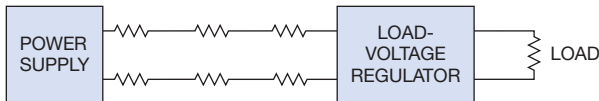

Figure 2 A local regulator solves the problem but is expensive and inefficient.
**W**ires and connectors have resistance. This simple, unavoidable truth dictates that a power source's remote load voltage is less than the source's output voltage (**Figure 1**). You could maintain the intended load voltage by raising the regulator output. Unfortunately, line resistance and load variations introduce uncertainties, thus limiting the correction accuracy. You could add a locally positioned regulator, but this approach is inefficient due to regulator losses (**Figure 2**). A classic approach uses "four-wire" remote sensing to eliminate line-drop effects (**Figure 3**). In this case, load-referred sense wires feed the power supply's sense inputs. The sense inputs' high impedance negates the sense-line-resistance effects. This scheme works well but requires dedicated sense wires, a significant disadvantage in many applications.